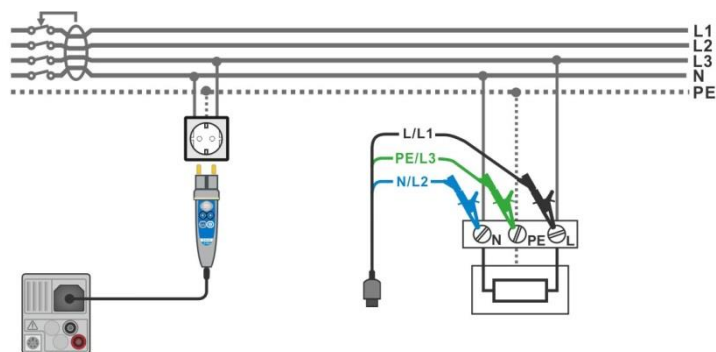

Figure 7.28: Connecting the Plug commander and the 3-wire test lead
- › Connect test leads or Plug commander to the object under test, see **Figure 7.28**.
<ul style="list-style-type: none"> › Enter the RCD Auto function. › Set test parameters / limits. › Connect test cable to the instrument. › Connect test leads or Plug commander to the object under test, see Figure 7.28 › Start the measurement. 	Start of test